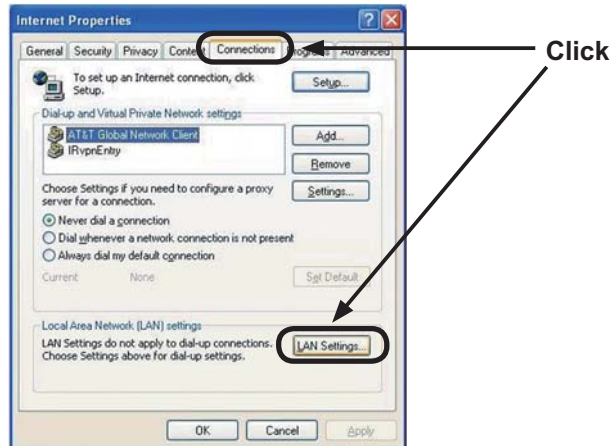

Fig. 2.3.3.b “Internet Properties” window
- 2) Click “Connections” tab and then click “LAN settings” button to open “Local Area Network (LAN) settings”. (Fig. 2.3.3.c)